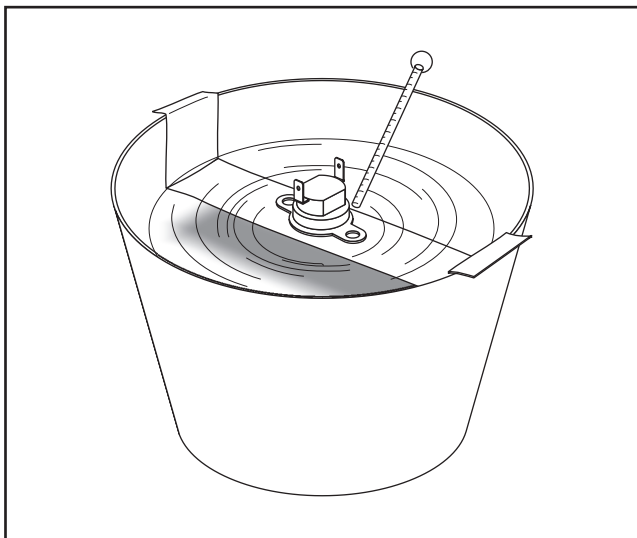

Figure 7-40. – Testing Oil Temperature Switch
2. Remove the switch and place its sensing tip into oil (Figure 7-40). Place a thermometer into the oil.